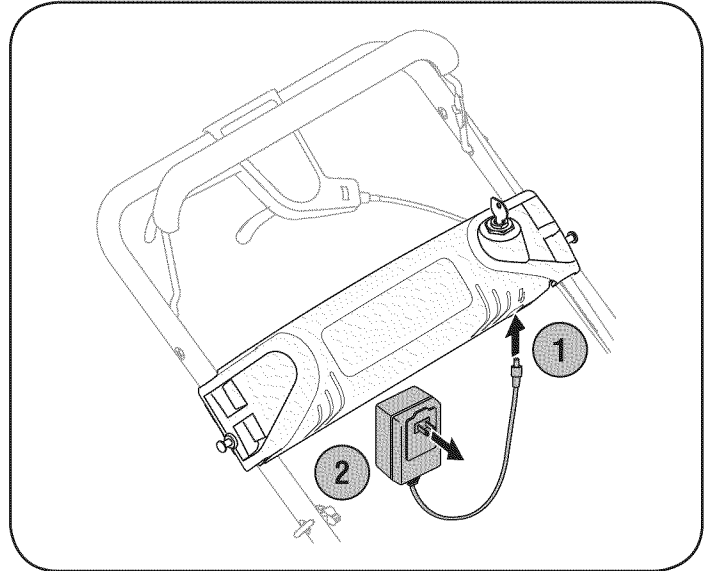

Figure 21
- Plug the battery charger into the port on the underside of the battery housing. See Figure 21.